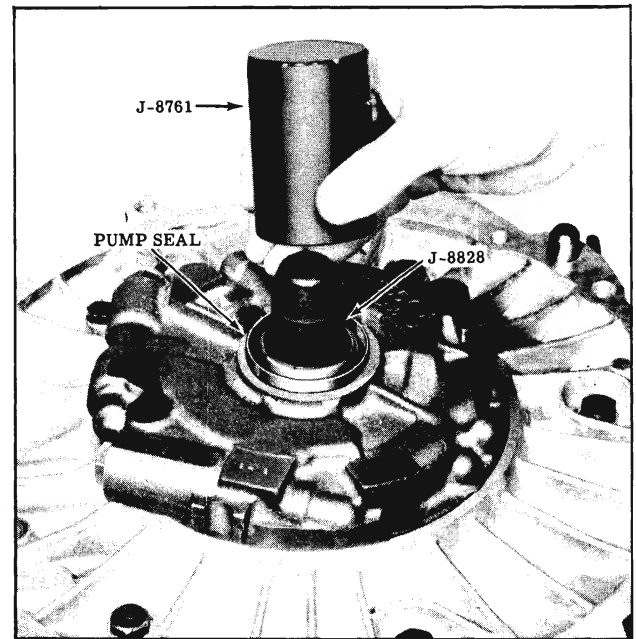

Fig. 3-32 Installing Pump Seal
- d. Install seal using Tool J-8761. (Fig. 3-32)